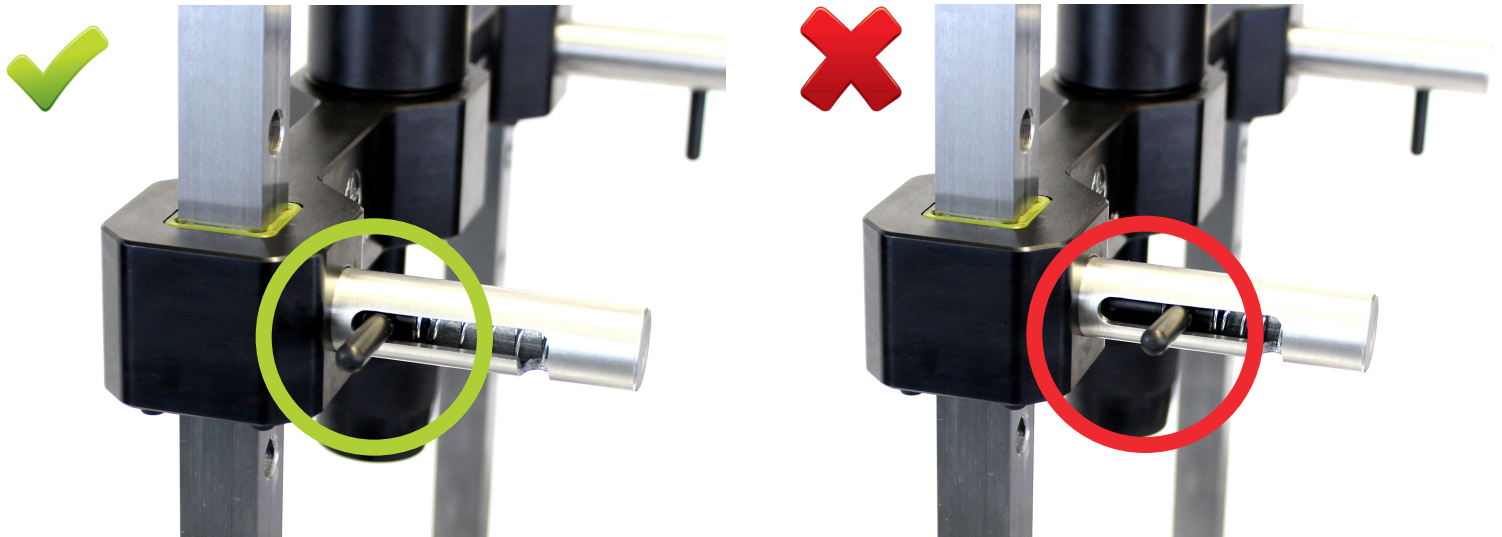

Figure 7: Quick-Change Latch: a) Correct: Fully Engaged, b) Incorrect: Partially Engaged
5. Release the two latches on the stage beam by pulling the handles out and rotating to the bottom position and move the stage beam up or down to have the top of the unit under test 1.5" or less away from the ball seat adapter. Check that the latches are fully engaged without any gap between the handles and their housing slot. (see Figure 7)
3. Release the two latches on the stage beam by pulling the handles out and rotating to bottom (see Figure 7) position. Then, move the stage beam up or down to have the top of the unit under test close to the swiveling coupling nut underneath the stage beam. Check the latches to ensure that they are fully engaged without any gap between the handles and their housing slot.